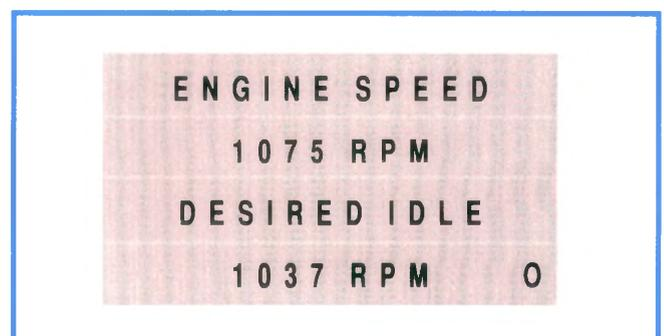

Figure 6-37, Memory Full/Data Display (Steady "0")
- A fixed "0" [zero] (figure 6-37) indicates that the Tech 1 memory is full, which causes the system to go into Data Display mode. The screen in this mode shows the data samples that were recorded at the trigger point.